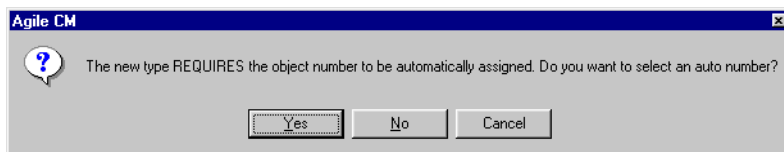

Figure 4-14: Warning dialog box for Agile CM systems requiring autonumbering
3. If the new subclass has an autonumber scheme assigned in **Agile Administrator**, **Agile CM** will ask you if you want to select a new autonumber for the new subclass (unless autonumbering is required by your system, in which case you will see a different warning message; see Figure 4-14).
If autonumbering is required in your system, a different warning will be displayed, as shown in Figure 4-14.